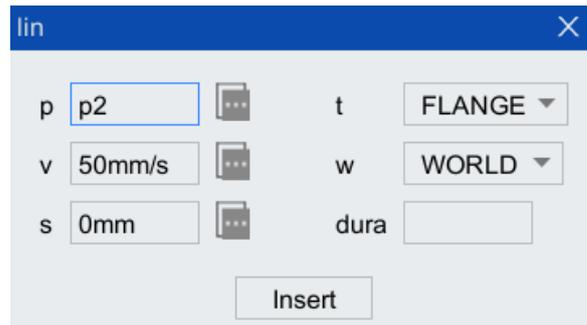

Figure 5-20 "lin" Instruction configuration interface
Step1. Click " " icon in the toolbar of the program editor to pop up "lin" instruction box, as shown in Figure 5-20.
- Step5. Click <Insert> button in Figure 5-20 to pop up "Are you need to create the variable ***" dialog box. Click <Yes> button, and then the instruction will be inserted successfully.